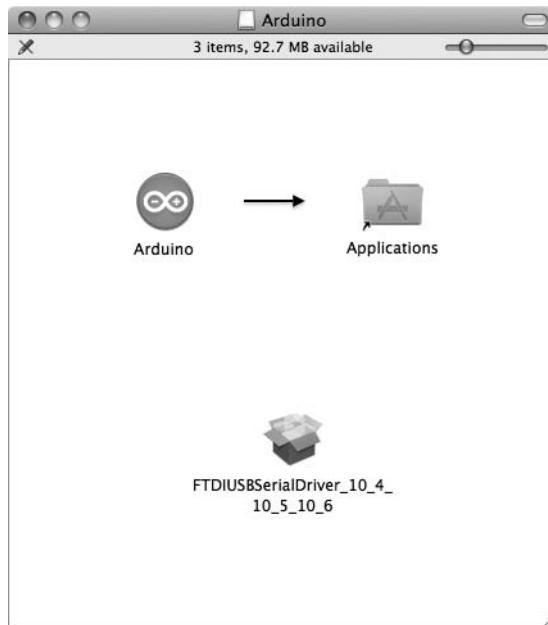

Figure 1-9: Your new Arduino IDE folder
3. Once it's finished downloading, double-click the file to start the installation process. You will then be presented with the window shown in Figure 1-9.
NOTE The third file icon shown in Figure 1-9 needs to be installed only if you have an Arduino board older than the current Uno.